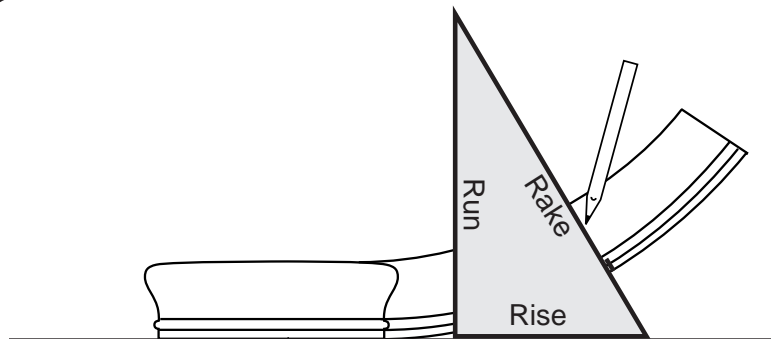

Fig. 3-21 Marking cut line on up easing of starting fitting.
3. Turn the pitch block with “rise” side down and align it with the mark; scribe the cut line across the side profile of the fitting. Please note Fig. 3-21 here.